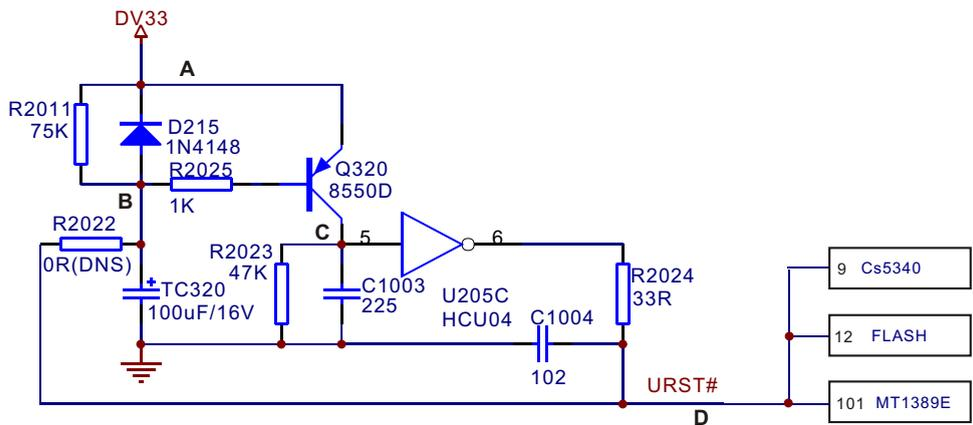

Figure 3.2.5.1 Reset circuit diagram
1. Reset circuit is shown in the figure 3.2.5.1: